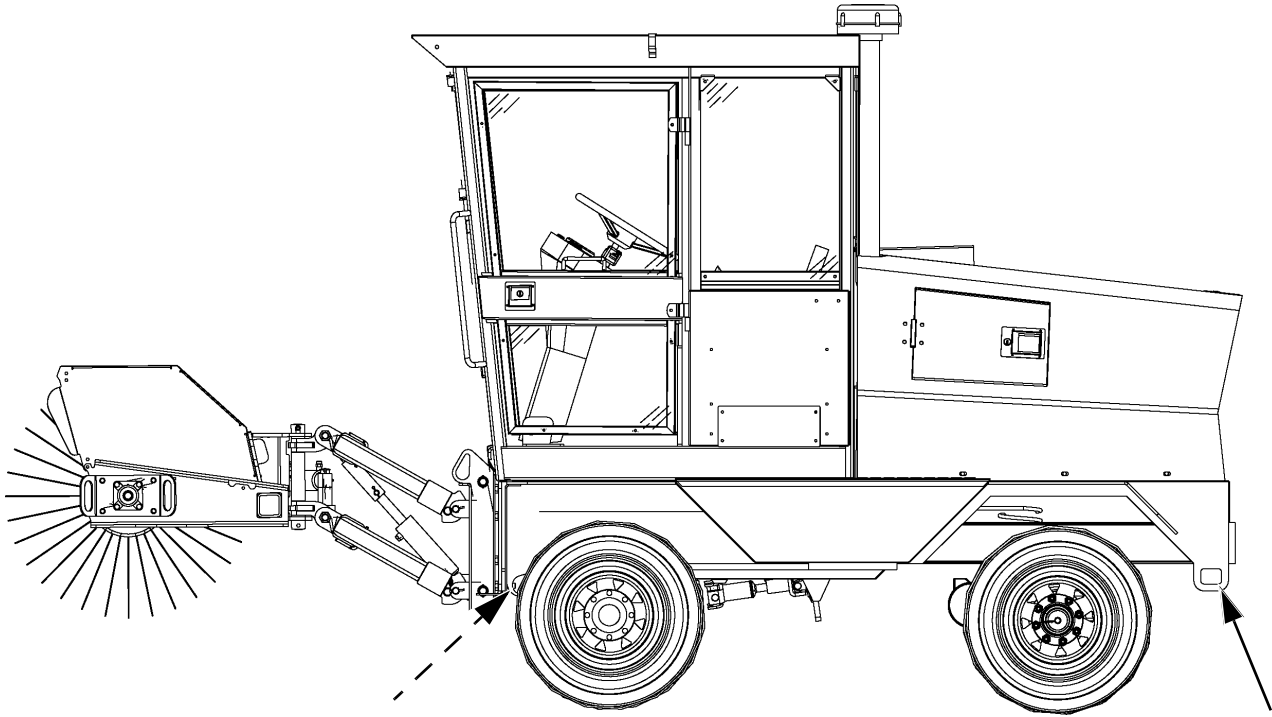

Figure 6-1
11. Secure the broom to the trailer using the four tie-downs located on each side at the front and rear of the broom’s main frame (Figure 6-1).